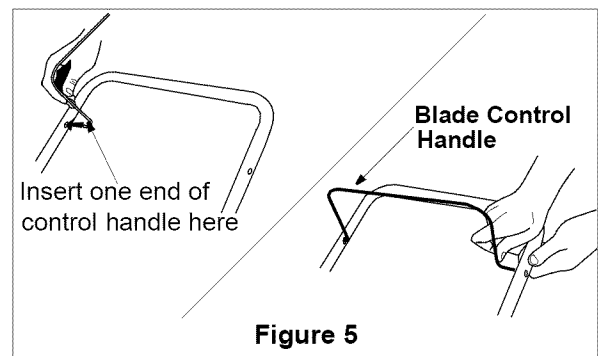

Figure 5
2. Insert the curved end of the blade control handle into the right hole. See Figure 5.